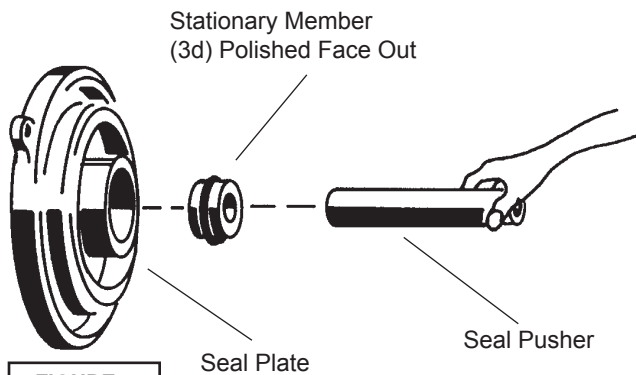

FIGURE 7
F-4.2 Replacing Shaft Seal (refer to fig. 7, 8 & 9):
When replacing the shaft seal (3), remove used rotating member (3c), spring (3b), and spring retainer (3a) from motor shaft. Press used stationary member (3d) from the seal plate (2). At reassembly, clean seal cavity thoroughly and apply a light coat of oil. Lightly oil the rubber ring (**DO NOT use grease**) and press the stationary member firmly into the seal plate using a seal pusher (See Parts List- Seal Tool Kit), nothing but pusher to come in contact with seal face (see Fig. 7). Insert so that the finished surface is up and the grooved surface is against the seal plate. Make sure the stationary member is in straight and that the rubber ring is not out of it's groove.